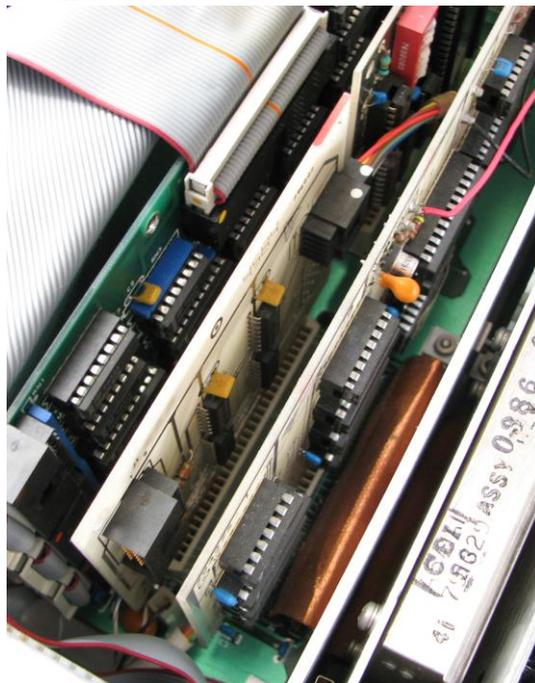

Figure 04: The Preselector Decode Card plugged in the X4 socket of the A6 mainboard.
3) Connect the 10-pin socket at the other end of the cable to the proper plug in the Preselector Decode card 796002 and insert that card into the X4 socket of the A6 I/O mainboard (X4 is the first socket in the center row of the A6 MB from the front of the receiver). The component side of the Preselector Decode Card must be placed to the right (as it happens for all the other boards), see Figure 04.